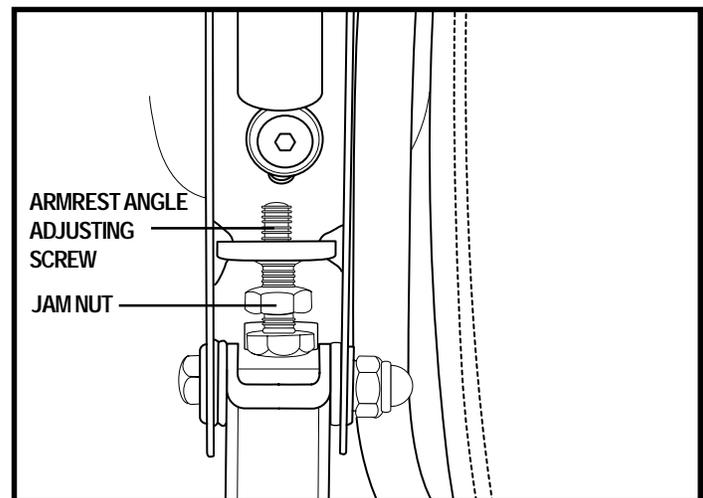

Figure 14. Armrest Angle Adjustment
1. Lift the armrest straight up so that it is perpendicular to the floor. See figure 14.